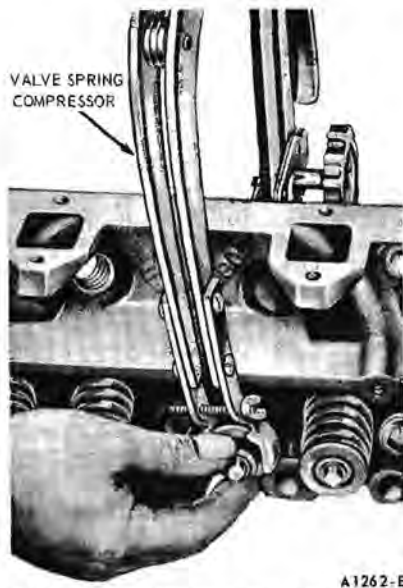

FIG. 20—Compressing Valve Spring—On Bench
3. Compress the valve springs (Fig. 20). Remove the spring retainer locks and release the spring.
3. Compress the spring and install the retainer locks (Fig. 20).